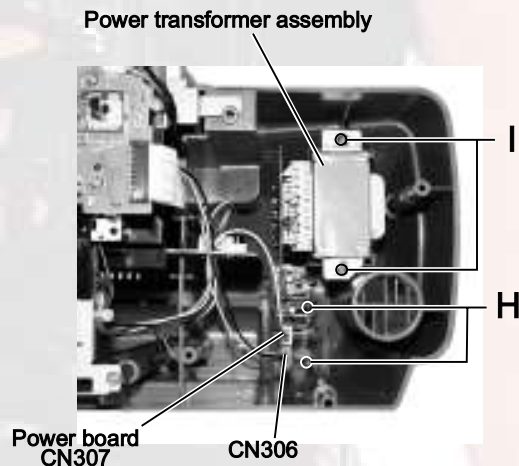

Fig.20
■ **Removing the power transformer assembly (See Fig.20)**